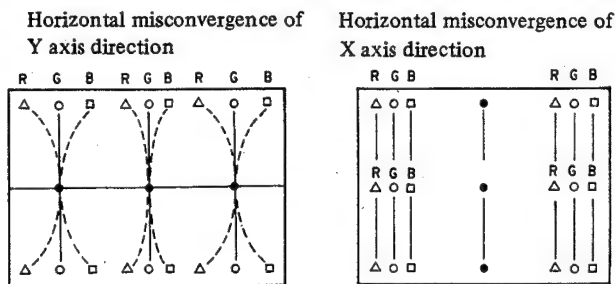

Figure 20
This is a simple explanation of the convergence system in Super fine Trinitron picture tube used in this model. The Deflection Yoke (DY) used in this model generates an almost uniform magnetic field in order to get fine beam spot size. Accordingly basically misconvergence of horizontal direction as shown in Figure 20 is generated on the picture screen.